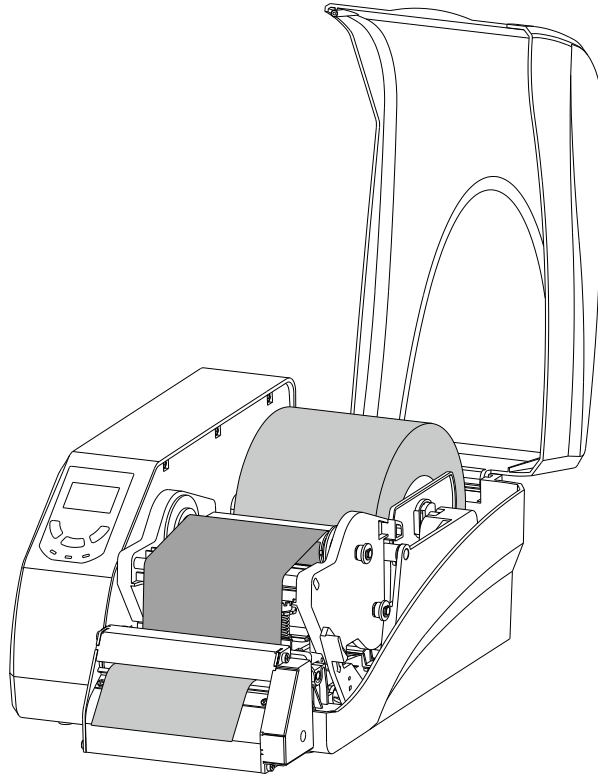

Figure 2-14 Cutter Mode
3. Load the media, please refer to 2.2.4.1 Tear-off Mode. Thread the media through the opening on the cutter as shown in Figure 2-14.